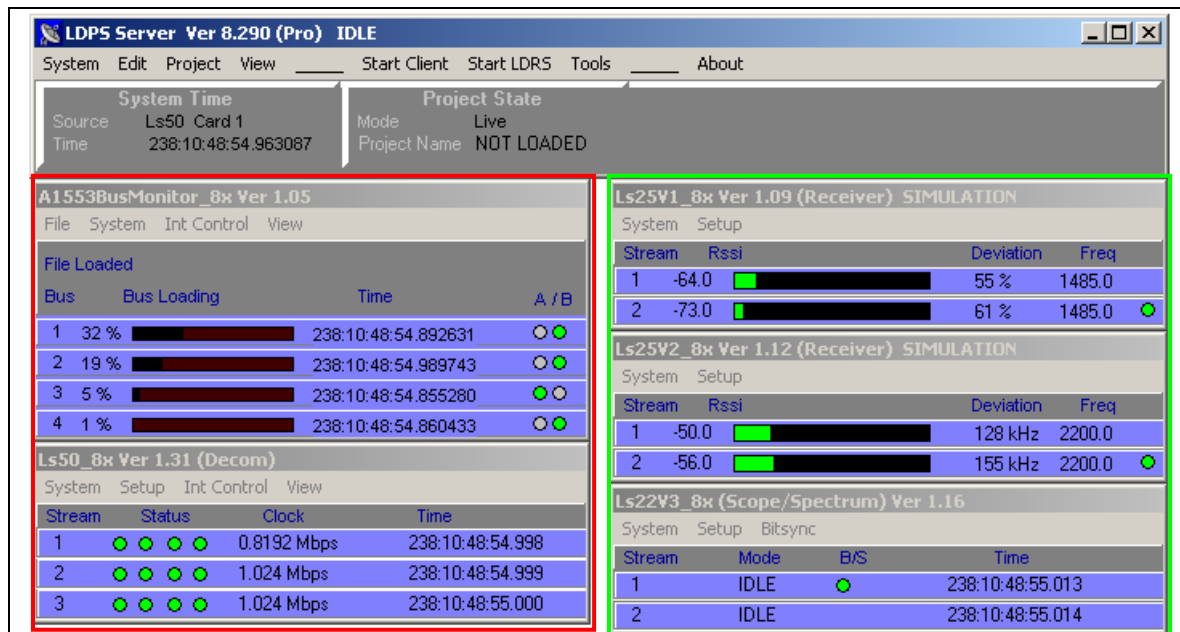

Figure 2-8 Server Device Control Windows
The Device Control section is located below the information section, and actually consists of individual device control windows that are linked to the main server window. The individual device control windows may not be moved independently but they do move in unison with the main server window. The device control windows are described in great detail in the numbered paragraphs of section 3 beginning on page 76. An example of several device control windows is shown in Figure 2-8 below. The device control section is where the operation of the various devices installed on the machine is controlled. Each device category is actually a stand-alone program linked to the server application. Each of these programs can have up to twelve (12) cards associated with them, but only a total of twenty-four cards for all the programs can be used. There are two fundamental types of cards, serial (red rectangle below) and non-serial (green rectangle below). The serial type cards (like an LS-50-P decommutator) are located on the left side below the server window. The non-serial type cards (like an LS-25 receiver) are located on the right side below the server window. Therefore, a total of twenty-four (24) cards can be in the system (assuming a chassis that can accept that many cards and with enough power).